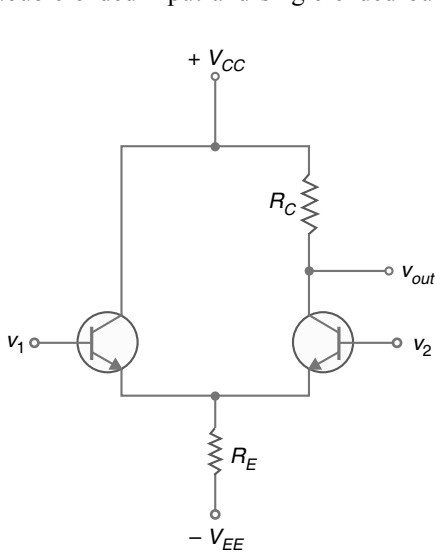
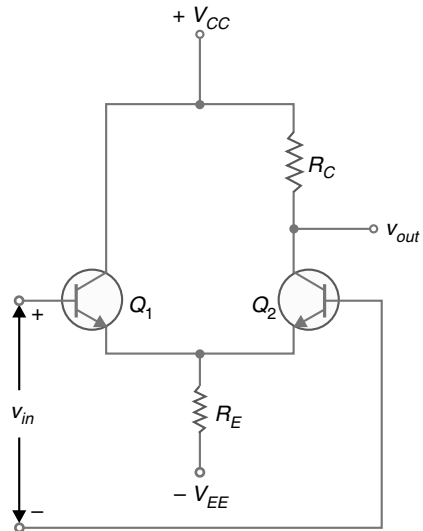
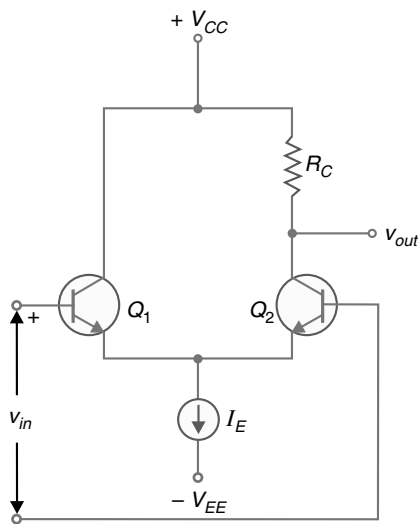
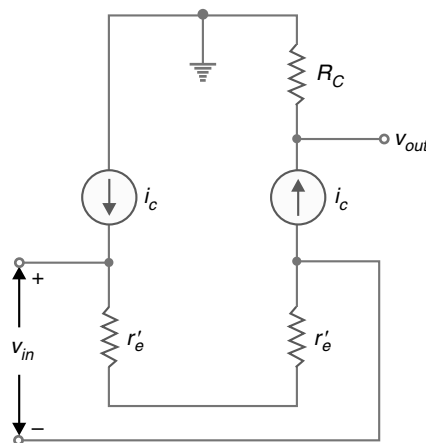

Fig. 23.27
Fig. 23.28
Fig. 23.29
Fig. 23.30
A differential amplifier (DA) has a noninverting input and an inverting input. Fig. 23.27 shows the differential amplifier (DA) that is used in IC OP- amps. Note the circuit has double-ended input and single-ended output.
If you look at the differential amplifier circuit in Fig. 23.27, it responds to the difference between the voltages at the two input terminals. In other words, DA responds to  $v_{in} (= v_1 - v_2)$ . Therefore, the circuit shown in Fig. 23.27 can be drawn as shown in Fig. 23.28.
Ideally (*i.e.*,  $V_{BE}$  is negligible), the tail current  $I_E$  in Fig. 23.27 is  $I_E = V_{EE}/R_E$ . Once the values of  $V_{EE}$  and  $R_E$  are set, the tail current is constant. Therefore, to simplify a.c. analysis, we can replace the tail current by a current source ( $I_E$ ) as shown in Fig. 23.29. This will simplify the a.c. analysis of the circuit with almost no loss of accuracy.
**A.C. Equivalent Circuit.** We can easily find the a.c. equivalent circuit of differential amplifier by applying the usual rules to Fig. 23.29. The rules are to short all the capacitors, and reduce all d.c. sources to zero. Since a differential amplifier has no capacitors, all that we have to do is to reduce the d.c. sources to zero. Reducing a voltage source to zero is equivalent to replacing it by a short. Reducing a current source to zero is equivalent to opening it. In Fig. 23.29, this means ground the  $V_{CC}$  point, ground the  $V_{EE}$  point and open the current source. Applying these conditions to Fig. 23.29, we get the a.c. equivalent circuit of differential amplifier shown in Fig. 23.30.
**Voltage gain.** Fig. 23.30 shows the a.c. equivalent circuit of a differential amplifier. This is how a differential amplifier looks to an a.c. signal. Note that  $r'_e$  ( $= 25 \text{ mV/d.c. emitter current}$ ) is the a.c. emitter resistance. Since the two  $r'_e$ 's are in series, the same a.c. emitter current exists in both transistors. The a.c. emitter current is given by ;